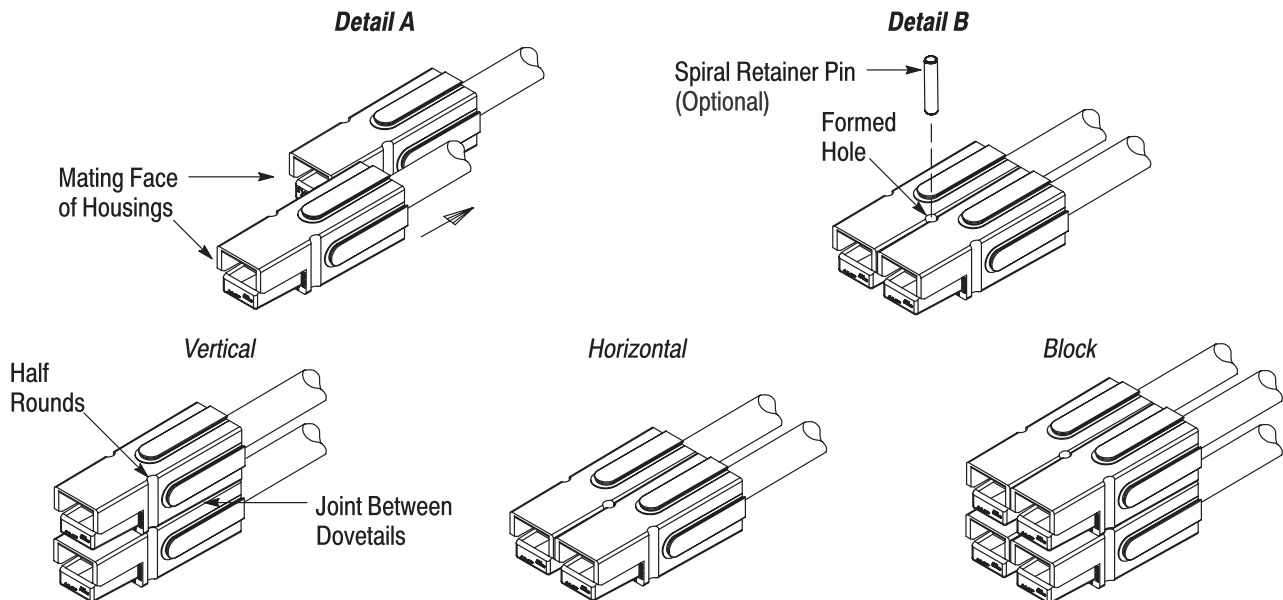

Figure 8
1. Align the mating face of a housing with the mating face of another housing. Slide the housings together until the dovetails are engaged, the ends of the housings are flush, and the half rounds form a hole or, for vertical stacked housings, the half rounds align. See Figure 8, Detail A.
2. For free-hanging housings, if desired, insert a retainer pin into each formed hole or, for vertical stacked housings, aligned half rounds. Make sure each retainer pin is flush with the top and bottom of the stacked housings. See Figure 8, Detail B.